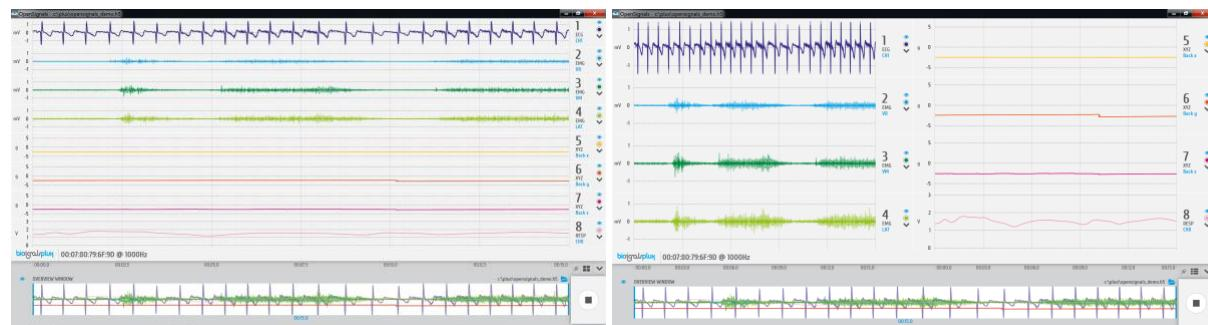

Figure 78: Channel visualization modes.
*OpenSignals (r)evolution* offers two different channel visualization modes (see Figure 78). The first (default) mode displays all the channels stacked vertically in order of the channel number (see Figure 78, left visualization mode). The second type splits the visualization mode vertically in half, displaying half of the channels on the left side of the visualization window and the other half on the right side (see Figure 78, right visualization mode). This mode can be useful when visualizing multiple channels at the same time (e.g. using a 8-channel biosignalsplus).